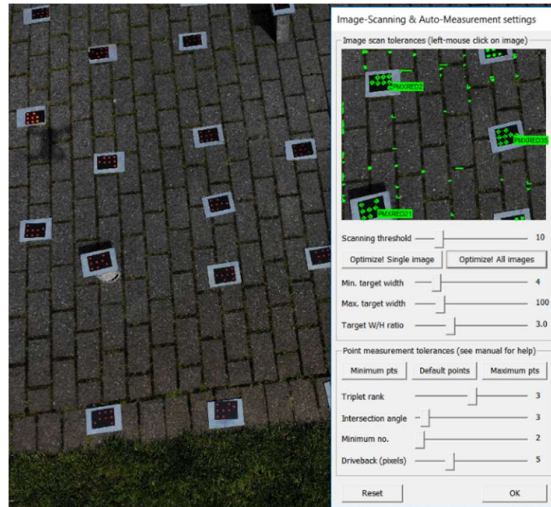

Figure 5
- iv) An optimization of the image scanning parameters is the next step. This is initiated by opening an image and selecting the **Q-key**. This brings up the Image Scanning and Auto-Measurement Settings dialog. The **Optimize all images** button is then selected to determine the best scanning threshold, as indicated in Figure 5. Note that this process may take a few minutes, depending upon the number of images and the general exposure of the images (the process is faster with under-exposed images). Click **OK**.